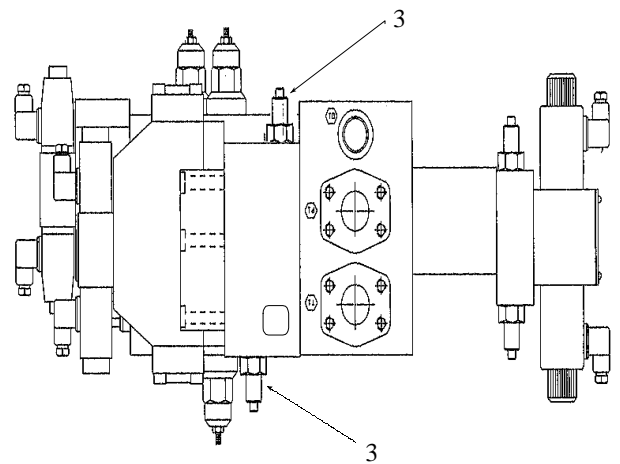

FIGURE 1
There is a "3" stamped in the propelling valve module block next to the relief cartridges. (See Figures 1 and 2.)
4. On the propelling relief valve cartridges (#3 on the propelling valve module block) turn the adjusting screw all the way in. (See Figures 1 and 2.)